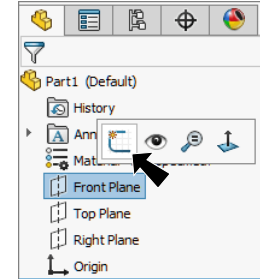

Fig. 1
Step 2. Click **Front Plane**  in the Feature Manager and click **Sketch**  on the context toolbar, Fig. 1.